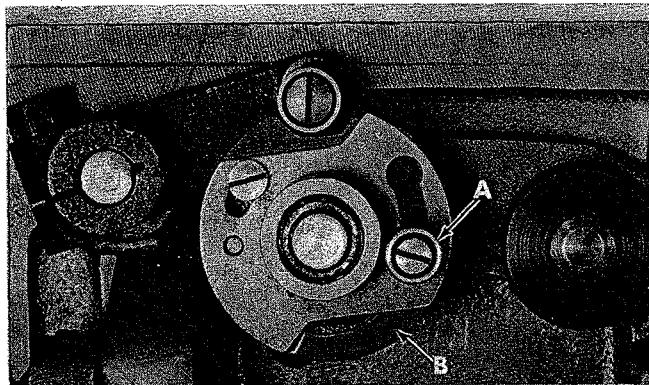

Fig. 23
Figure 23 shows Style 200-45 in STOP POSITION and set to produce 16 stitches. The stitch selector knob (A) is at its low position and the gap (B) is closed. To produce 8 stitches pull the knob (A) out and move it to the top of the slot. This will open gap (B) causing the machine to stop in the middle of the normal cycle.